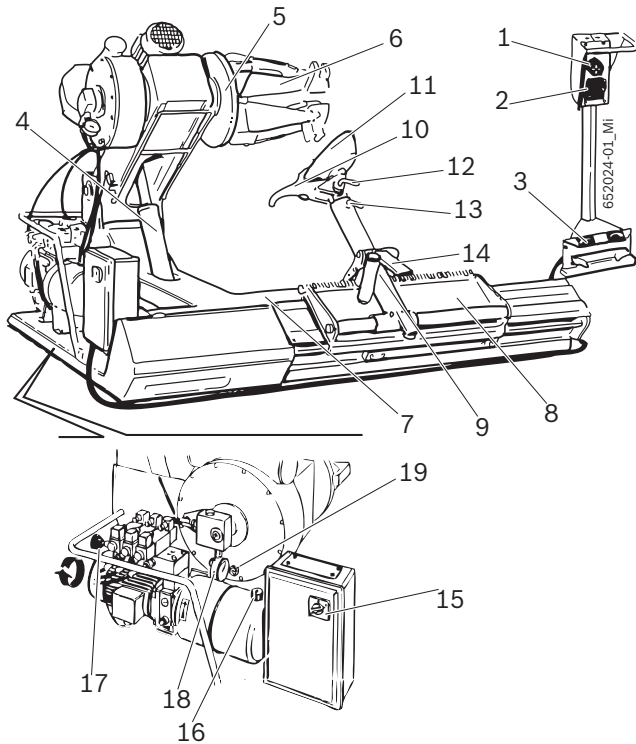

Fig. 1: JUMBO TCS52 NW
The locking flange is driven by the high pressure hydraulic circuit, adjustable from 20 to 130 bar by turning the dedicated knob (Fig. 1, pos. 17) and reading the value on the manometer (Fig. 1, pos. 18). The normal working pressure is 130 bar. For weak or particularly thin rims it is necessary to decrease this pressure.
For wheels having a diameter of less than 800 mm or more than 1500 mm, it is suggested to take off the mounting tool pin (Fig. 1, pos. 12) and put it in the second hole.